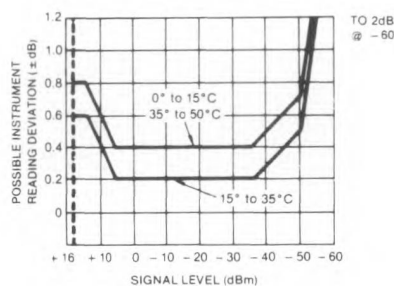

Figure 1. Models 1038-N10 System Coaxial Detector Accuracy from 1 MHz to 26.5GHz.
- Detector accuracy as shown in figure 1